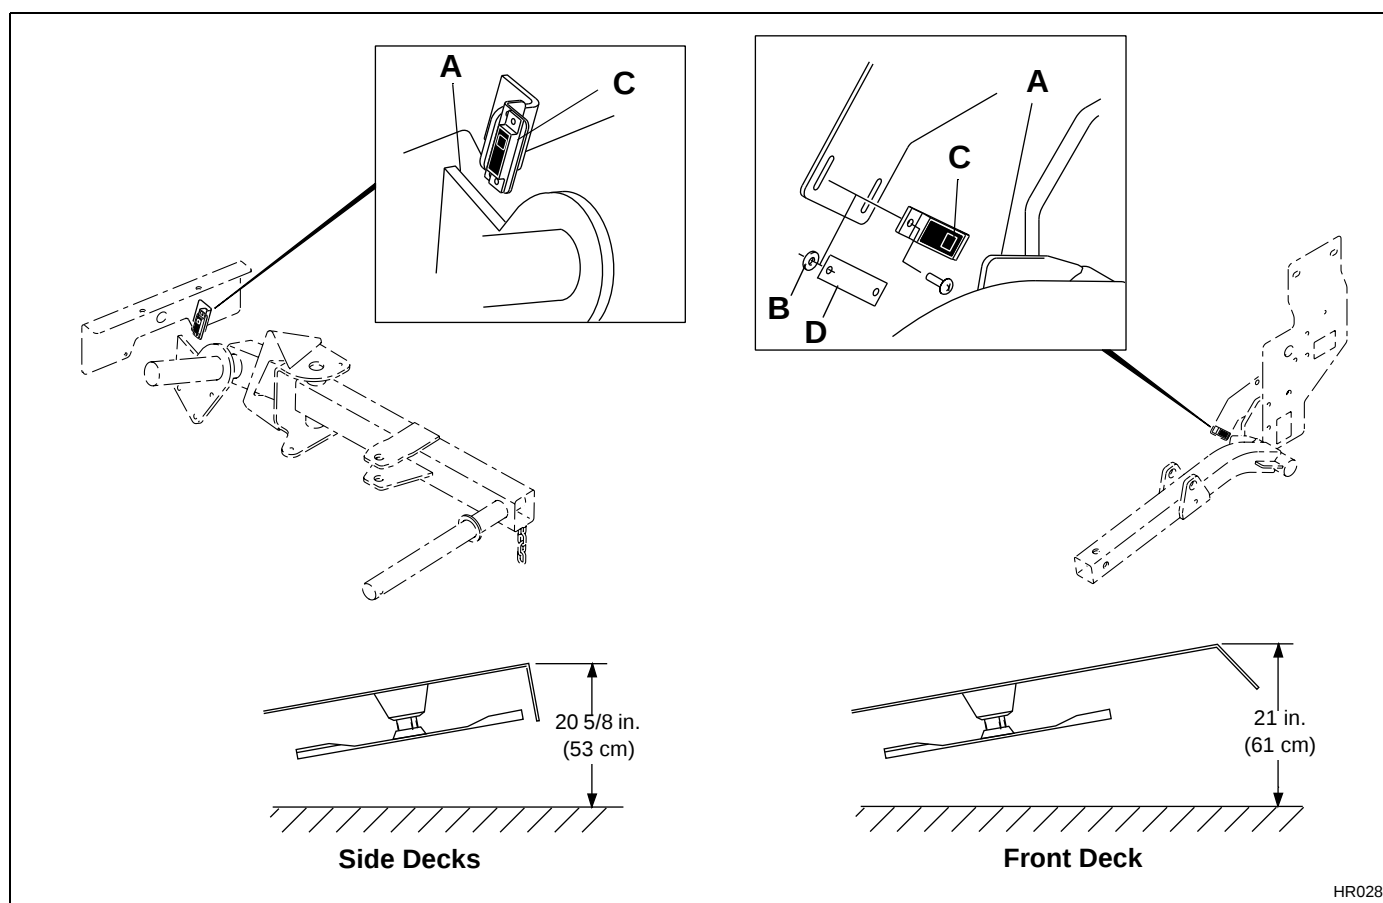

Figure 3K
2. Start mower and raise or lower decks until the highest point on the top corner of the deck reaches the height shown in **Figure 3K**.